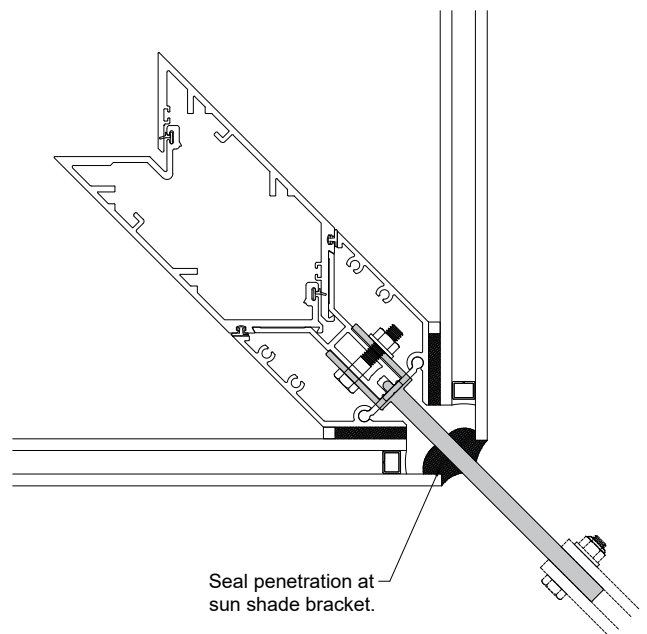

FIG. 15.2
- 5) Once all Cassette framing and closures have been installed, install perimeter glass seals as instructed, sealing around sun shade bracket penetrations. Fig. 15.2.